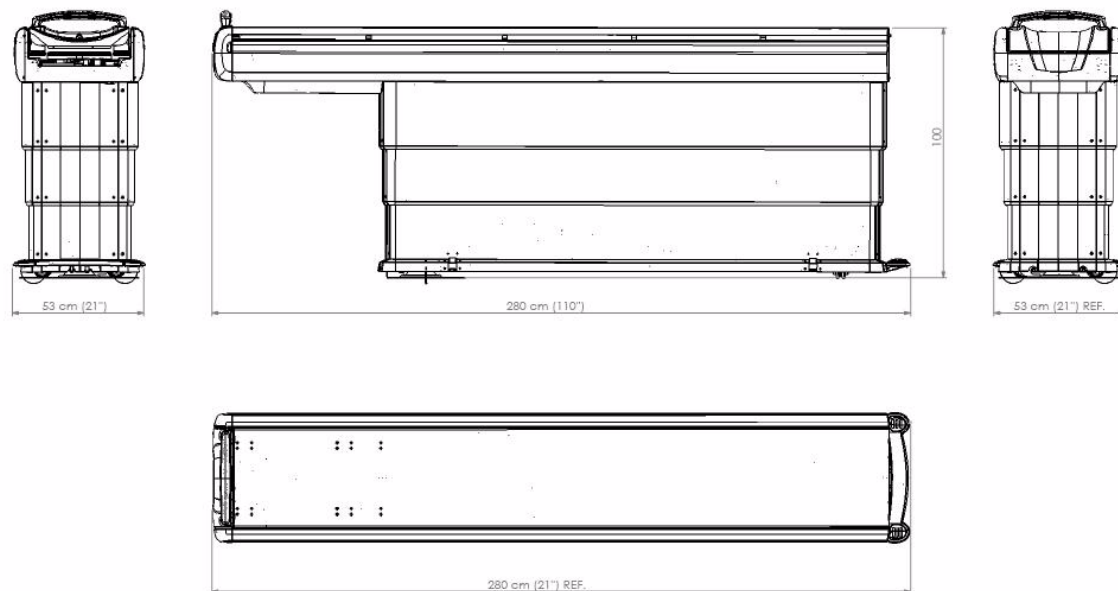

Figure 2-3: B615 Table Views
- Figure 2-3: B615 Table Views, p.2-5